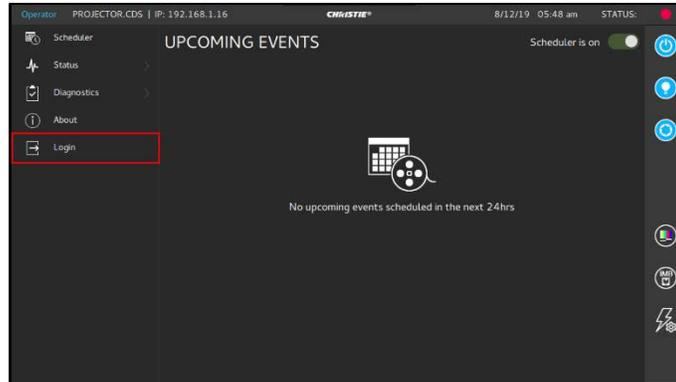

Figure 26: Login to Service Account
2. Log in to the 'Service' account on the Projector TPC by clicking on **Login** (as shown in **Figure 26**).